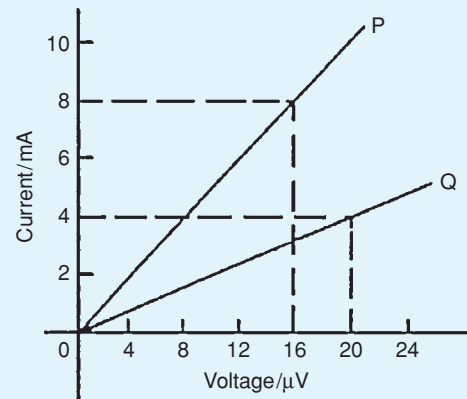

Figure 2.9
- Graphs of current against voltage for two resistors P and Q are shown in Fig. 2.9 Determine the value of each resistor. [2 m $\Omega$ , 5 m $\Omega$ ]